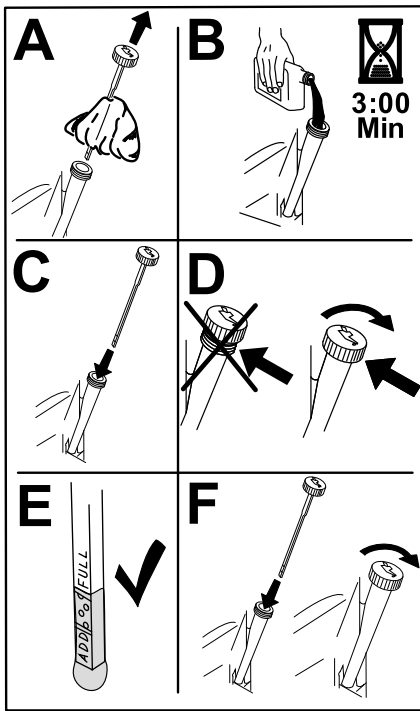

Figure 37
5. Slowly pour approximately 80% of the specified oil into the filler tube and slowly add the additional oil to bring it to the Full mark (Figure 37).
- Fill the crankcase with the proper type of new oil (Figure 37).